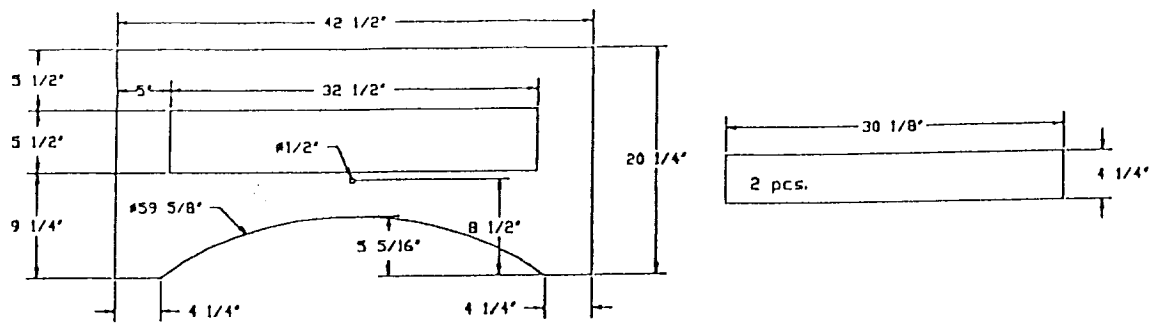

FIG. 10
**CAUTION:** If using "thin" brick a non-combustible facing material such as rock board must be used in front of the unit face. This facing must not be attached to the unit. See Figure 10 for proper cutting diagrams.